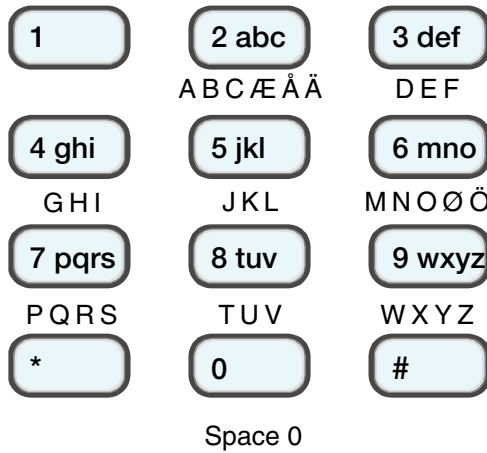

Figure 3. Letters Assigned to Keys
2. Key in the name from the keypad. Press each key one or more times to obtain the letter you want (the letters of the alphabet appear on the keys in the same arrangement as on many mobile phones, see Figure 3.)